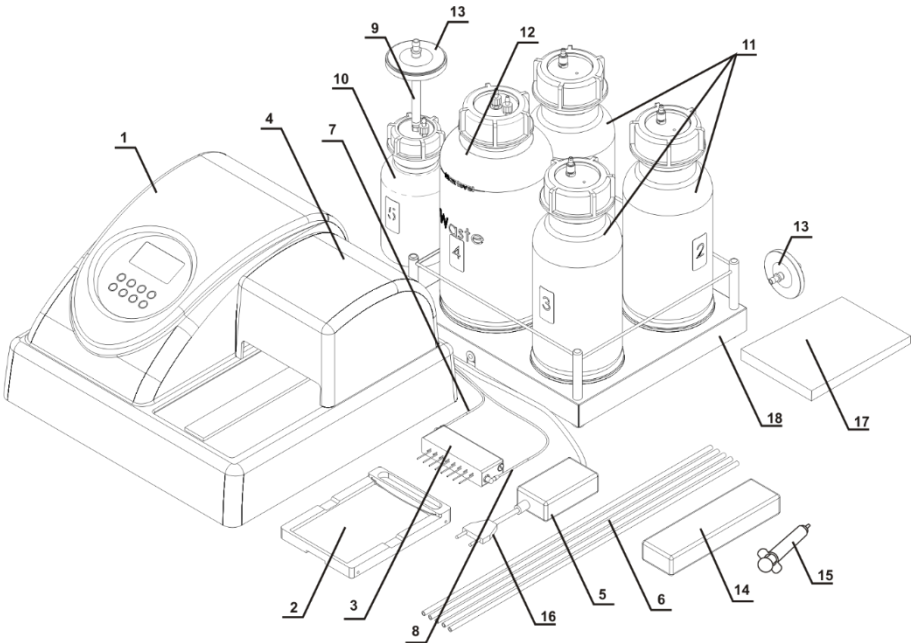
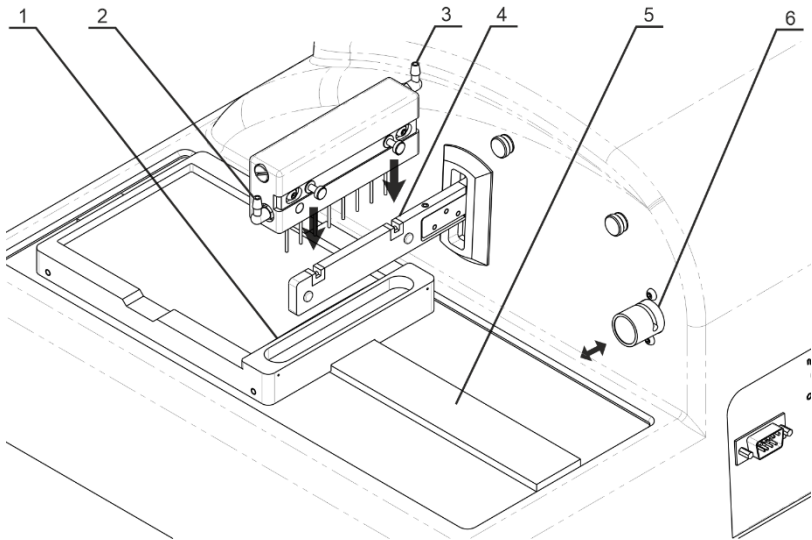
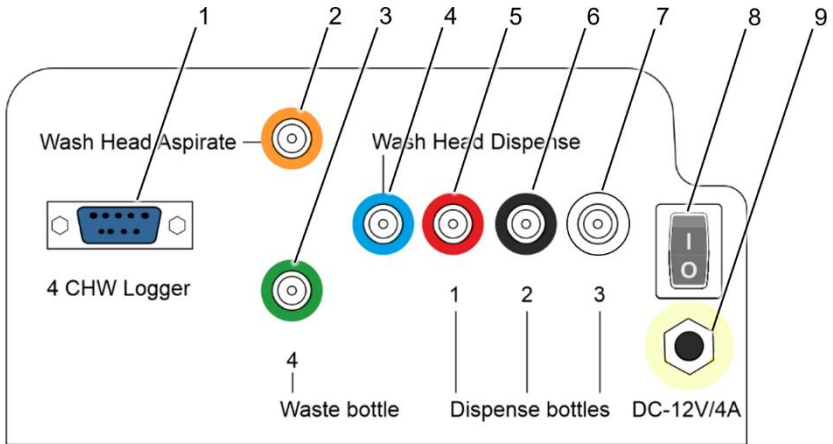
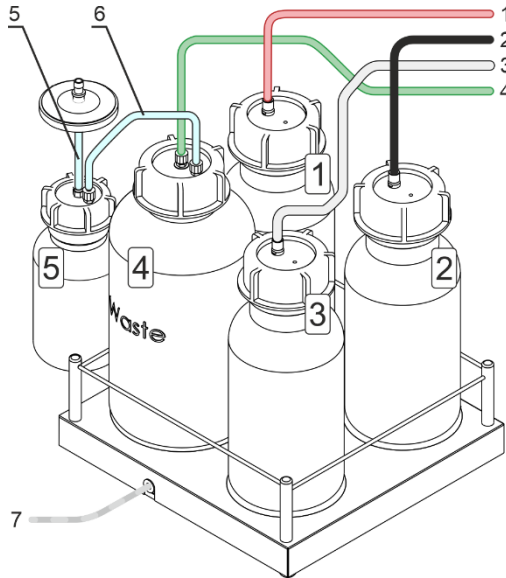

Figure 2. Complete set (see table above).
Figure 3. Unit side and back overview. Setting up.
Figure 4. Rear panel.
Figure 5. Bottles and tubing.
- Remove the protecting cover (fig. 2/4) from the unit and protective film from display.
- Unpack the plate platform (fig. 2/2).
- Place the plate platform on the railing (fig. 3/5) so that the plate holder (flat spring) faces the rear side of the unit (fig. 3/1). Magnet on the other side of the rail locks the platform into start position.
- Install the manifold in the slots of the holder arm (fig. 3/4). Magnets in the manifold and the holder arm connect and align the manifold.
Note. All tubes (fig. 2/6–2/8) and fittings (fig. 4/2–4/7) are colour-coded. Ensure that the tubes are connected securely.
- Align the thin tube with a blue stripe (fig. 2/7) with the slot on the upper side of the valve (fig. 3/6).
- Push the valve inside (fig. 3/↔), stretch and insert the tube through the slot.
- Install the protective cover (fig. 2/4). Ensure that manifold tubes are covered but are not squeezed.
4 CHW Logger adapter cable (fig. 5/7, if in use)	4 CHW Logger connector on the rear panel (fig. 4/1)
Caution! Before connecting the unit to the mains outlet, check that the power switch (fig. 4/8) is in position **O** (off).
- Connect the external power supply to the power socket (fig. 4/9) on the rear panel of the unit.
- Connect the power cord to the external power supply (fig. 2/16)
- Switch on the unit (position **I**) using the power switch (fig. 4/8) on the rear panel.
Note. When working with the FastFRAME plates, remove the plate holder (fig. 3/1). Install it back after operations, see **4.3.2**.